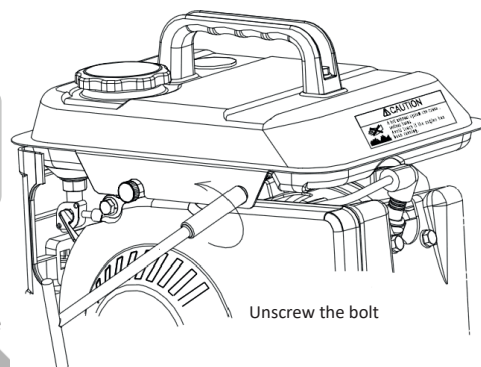

Fig. 26
1. Remove the fuel tank. (Fig. 26)